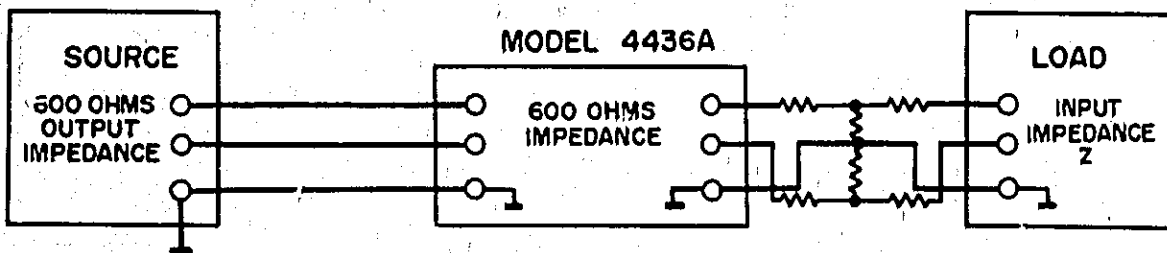
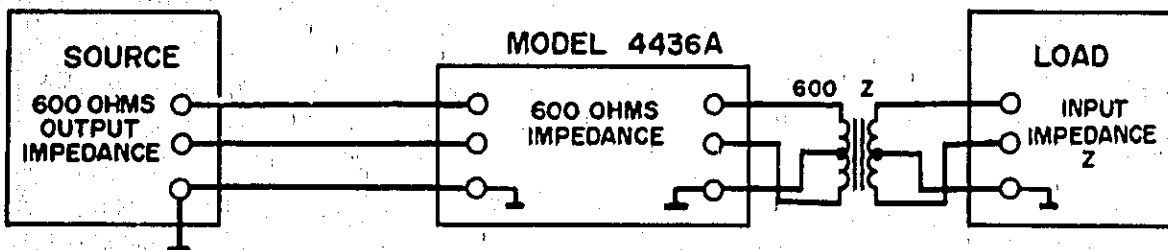

Figure 3-11. Output Matching with Resistive Network
Figure 3-12. Output Matching with Transformer
- c. Resistive matching networks or matching transformers may be used to provide the Model 4436A and its load with an impedance match. Figure 3-11 shows impedance matching with matching network and Figure 3-12 shows impedance matching with transformer. Similarly in matching at the INPUT, the insertion loss of the resistive network or the transformer should be taken into account.